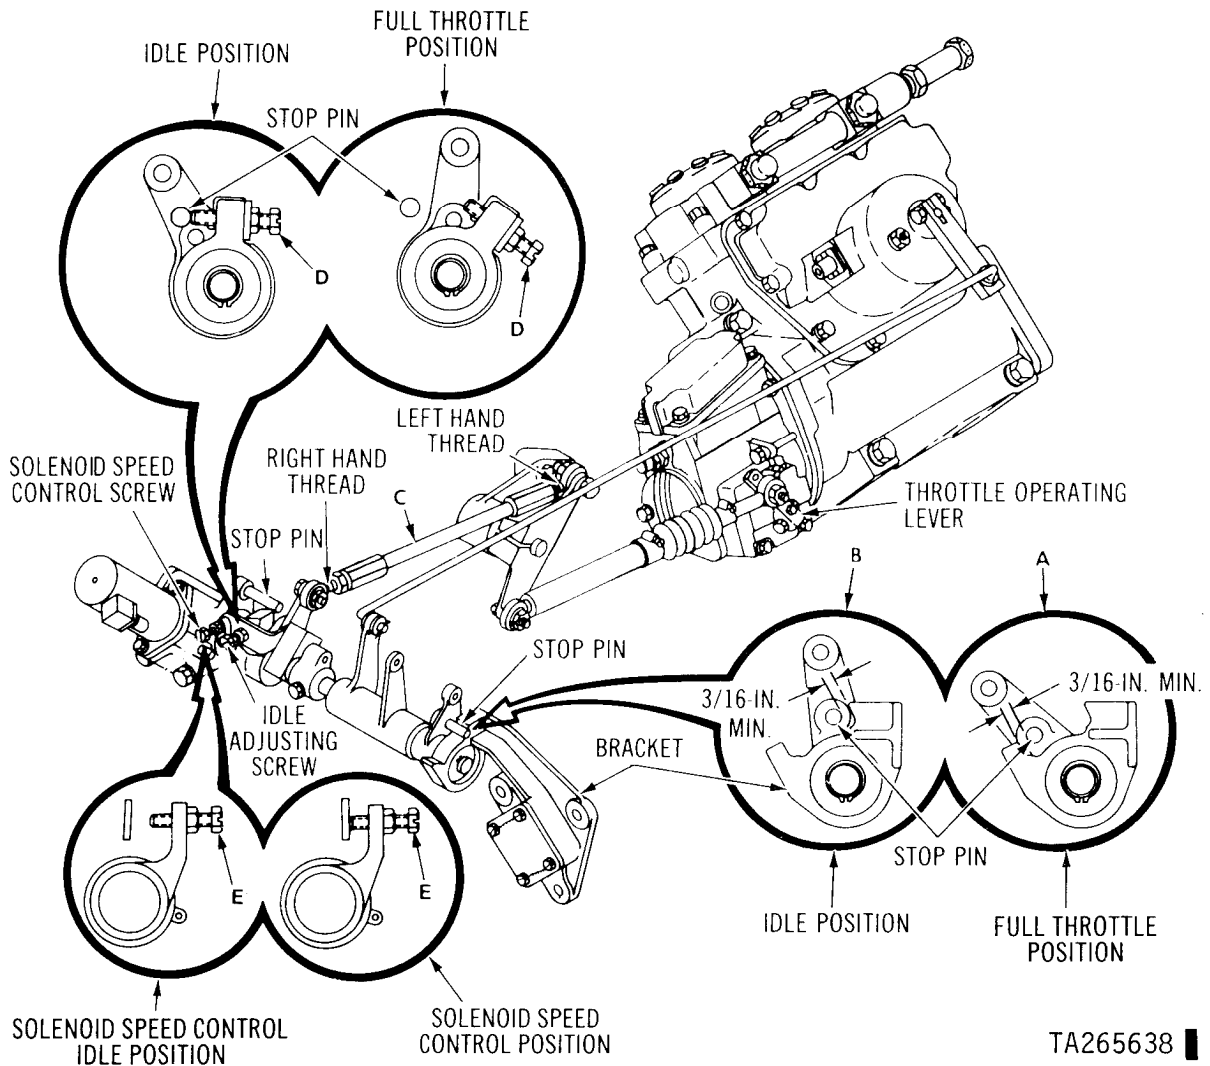

Figure 2-57.1 Throttle linkage adjustment, model AVDS-1790-2DR engine.
(14.1) With throttle linkage in full throttle position (A, fig. 2-57.1) clearance between lever stop pin and stop on bracket must be 1/8 to 3/16 inch minimum. With throttle linkage in idle position (B), clearance between lever stop pin and stop on bracket must be 3/16 inch minimum. When the foregoing clearances are not met, loosen lock nuts on adjustable rod (C), and adjust rod as necessary to obtain required clearance. Tighten lock nuts after adjustment. The idle adjusting screw (D) solenoid speed control screw (E) must not be set until engine is installed and tested.